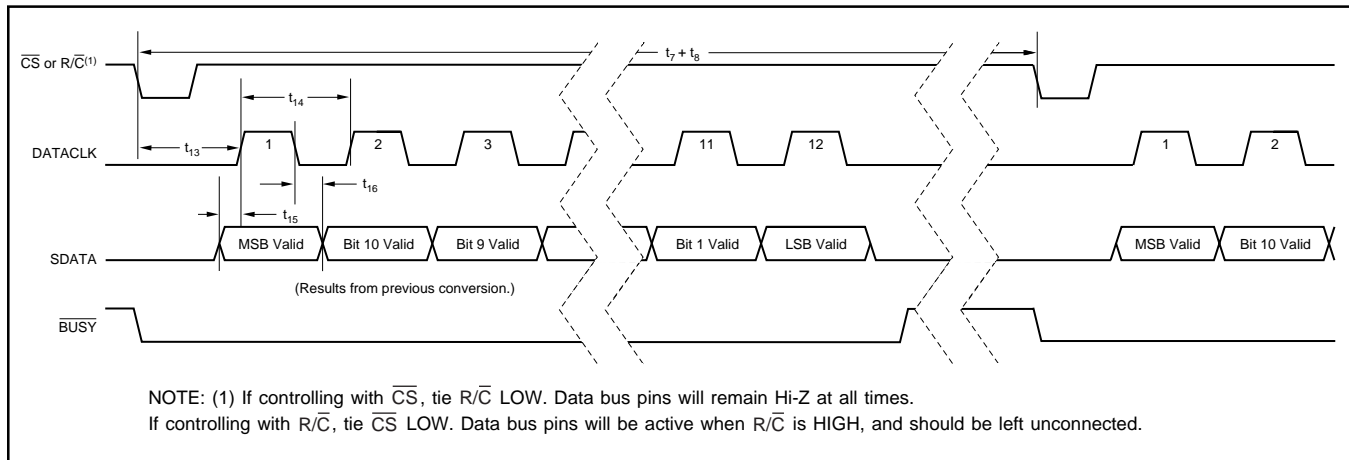

FIGURE 4. Serial Data Timing Using Internal Data Clock (TAG tied LOW).
NOTE: (1) See Figures 4, 5, and 6 for constraints on data valid from conversion 'n - 1'.
To use the internal data clock, tie  $\text{EXT}/\overline{\text{INT}}$  (pin 8) LOW. The combination of  $\overline{\text{R}/\overline{\text{C}}}$  (pin 22) and  $\overline{\text{CS}}$  (pin 23) LOW will initiate conversion 'n' and activate the internal data clock (typically a 900kHz clock rate). The ADS7806 will output 12 bits of valid data, MSB first, from conversion 'n - 1' on SDATA (pin 19), synchronized to 12 clock pulses output on DATACLK (pin 18). The data will be valid on both the rising and falling edges of the internal data clock. The rising edge of  $\overline{\text{BUSY}}$  (pin 24) can be used to latch the data. After the 12th clock pulse, DATACLK will remain LOW until the next conversion is initiated, while SDATA will go to whatever logic level was input on TAG (pin 20) during the first clock pulse. Refer to Table VI and Figure 4.